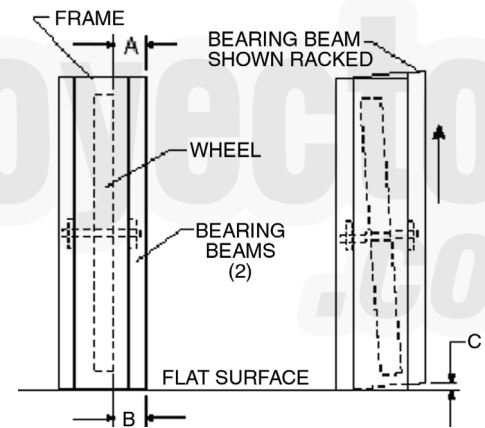
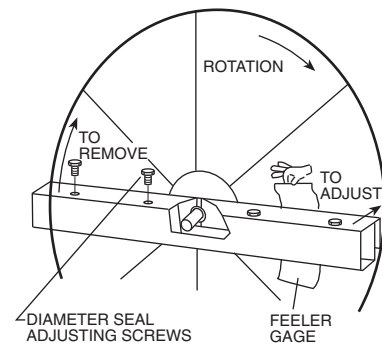

Fig. 164 — Avoid Racking of Frame
Fig. 165 — Diameter Seal Adjustment
5. Remove the upper and lower (2) wheel retainer angles, being careful wheel does not tip and fall out.
6. Slide wheel cassette out of frame (toward main AHU), and out the side of the unit (3).
7. The new ERV section may be mounted in any orientation. However, make certain that the frame remains flat and the bearing beams are not racked as shown in Fig. 164.
8. To ensure that the beams are not racked, check that the distance between the wheel rim and bearing beam is the same at each end of the bearing beam, to within $\frac{1}{4}$ of an inch (dimension A and B in Fig. 164). Bearing beam racking of as little as 0.040 inches (Dim C in Fig. 164) will cause the wheel to tilt $\frac{3}{16}$ in. at the rim. Adjusting the diameter seals (Fig. 165) will compensate for up to $\frac{1}{4}$ in. of racking.
- Wheel sections installed at angles greater than 30 degrees from vertical will require seal adjustment (Fig. 165). Adjust the diameter seals to avoid excessive wheel drag. A final check of seal adjustment is recommended for all designs.
- Loosen the diameter seal adjusting screws and back seals away from wheel surface (Fig. 165).